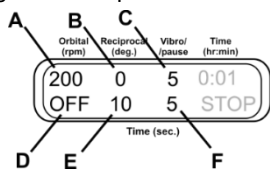
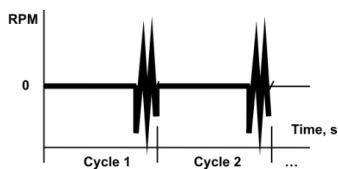

Figure 11.
Figure 12.
6.9.4 **Vibration + Pause.** Turn off Orbital motion by setting time of Orbital motion below zero (fig. 11/D, OFF). Set the amplitude of Reciprocal motion (fig. 11/B) to zero. Set the time for Reciprocal motion (fig. 11/E, 1–250 s), this is the time of pause duration. Set the amplitude (fig. 11/C, 0–5°) and time (fig. 11/F, 1–5 s) for Vibro motion. See figure 12 for process visualization.